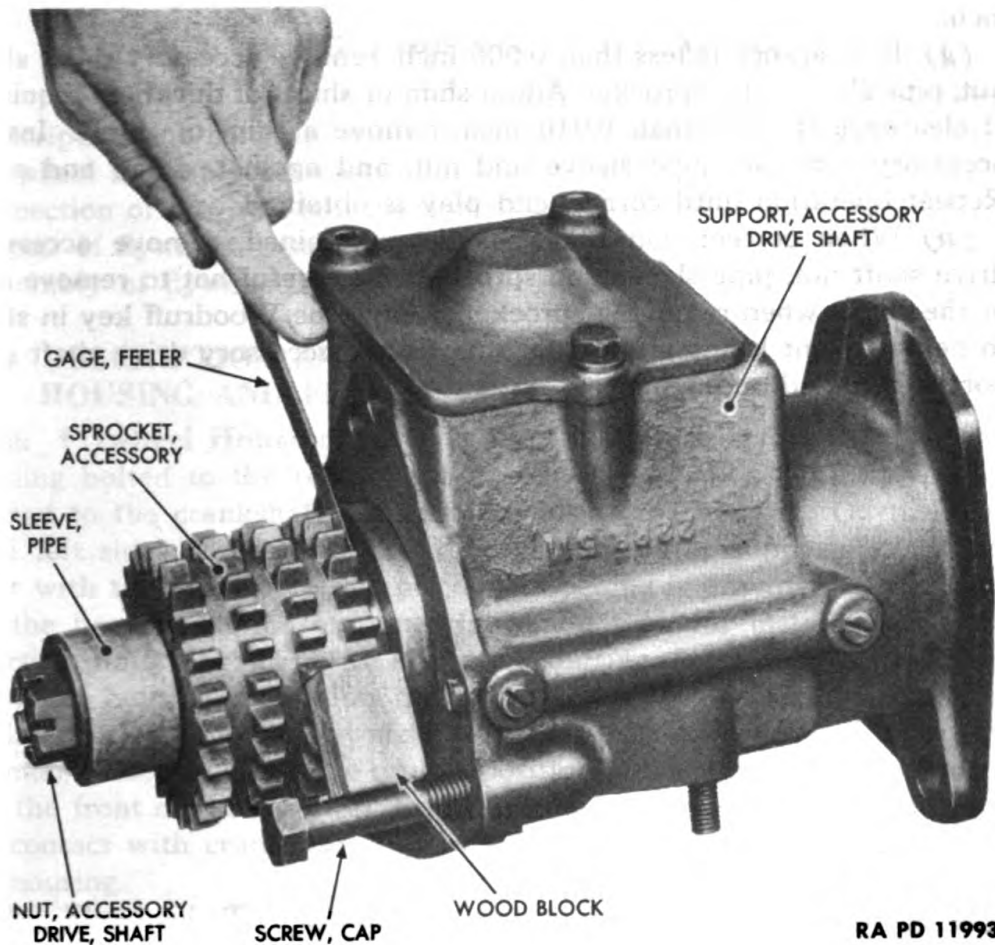

Figure 99—Testing Accessory Drive Shaft End Play
(c) Fashion a pipe sleeve $1\frac{1}{8}$ inches long with an inside diameter of $1\frac{5}{16}$ inches. Slip sleeve on shaft (fig. 99).
(d) Install a $\frac{1}{2}$ -inch cap screw in end of accessory drive shaft support, next to the accessory sprocket (fig. 99). Place a small block of wood between bolt and sprocket, to keep accessory drive shaft from turning (fig. 99).
(e) Install accessory drive shaft nut (fig. 99). Draw nut down tightly. Pull shaft as far forward as it will come.
(f) Insert a 0.006-inch feeler gage at various points between face of accessory sprocket and flange of front accessory drive shaft bushing (fig. 99). This should fit loosely. Next, attempt to insert a 0.010-inch feeler gage at same points. This should either not fit or just barely fit.
(1) Heat ring gear with an acetylene torch. Move torch around circumference of ring until ring is too hot to handle with bare hands, but not hot enough to glow. Do not heat flywheel.
(2) Place flywheel forward side up on a smooth surface. Place ring gear in position on flywheel. Notches cut in one end of teeth of ring gear must face upwards.
(3) Drive ring gear onto flywheel with a brass drift and hammer (fig. 99). Tap sharply at intervals around circumference of ring gear to avoid cocking gear on flywheel. **CAUTION:** Drive against solid part of the ring gear; not on the teeth.